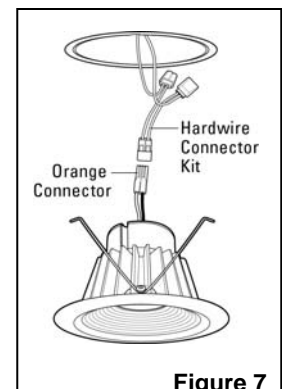

Figure 7
**NOTE: If your can does not have (2) torsion spring retention brackets inside, see the "Torsion Spring Adapter" section prior to going further.**
- Remove the socket adapter from the box. Cut both adapter wires close to the socket adapter and away from the orange connector, and discard the socket. Remove the (2) red splice-connectors from the hardwire kit bag. Pair the housing and orange connector wires by color into each red connector. Firmly squeeze the metal U-shaped insert into the wires. Flip the cover closed to secure and insulate the connection. (See Figure 7)